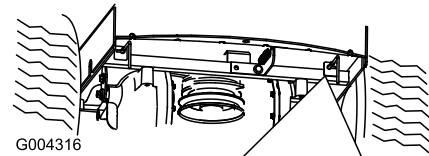

Figure 23
3. Move the two bypass levers to the inside and push them in until the washer on the rod passes through the slot (Figure 23).
4. Push the levers outward to lock them in place (Figure 23).
Move each bypass levers to the inside and pull them rearward, completely through the slot (Figure 23). Push the levers outward to lock them in place